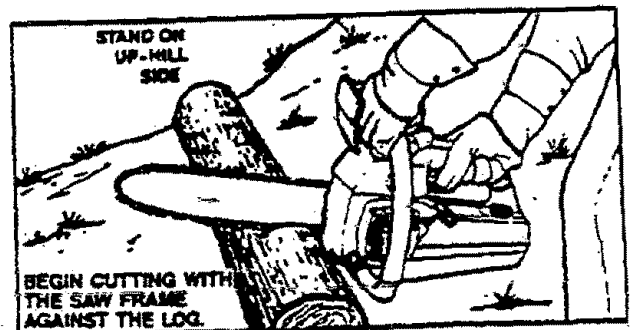

Figure 16
- b. Begin cutting with the saw frame against the log as shown in Figure 16.
- h. Stay on the uphill side of the terrain to avoid injury if the tree rolls or slides downhill after it is felled. Figure 16.
Stay on the uphill side of the terrain to avoid injury if the tree rolls or slides downhill after it is felled. Figure 16.